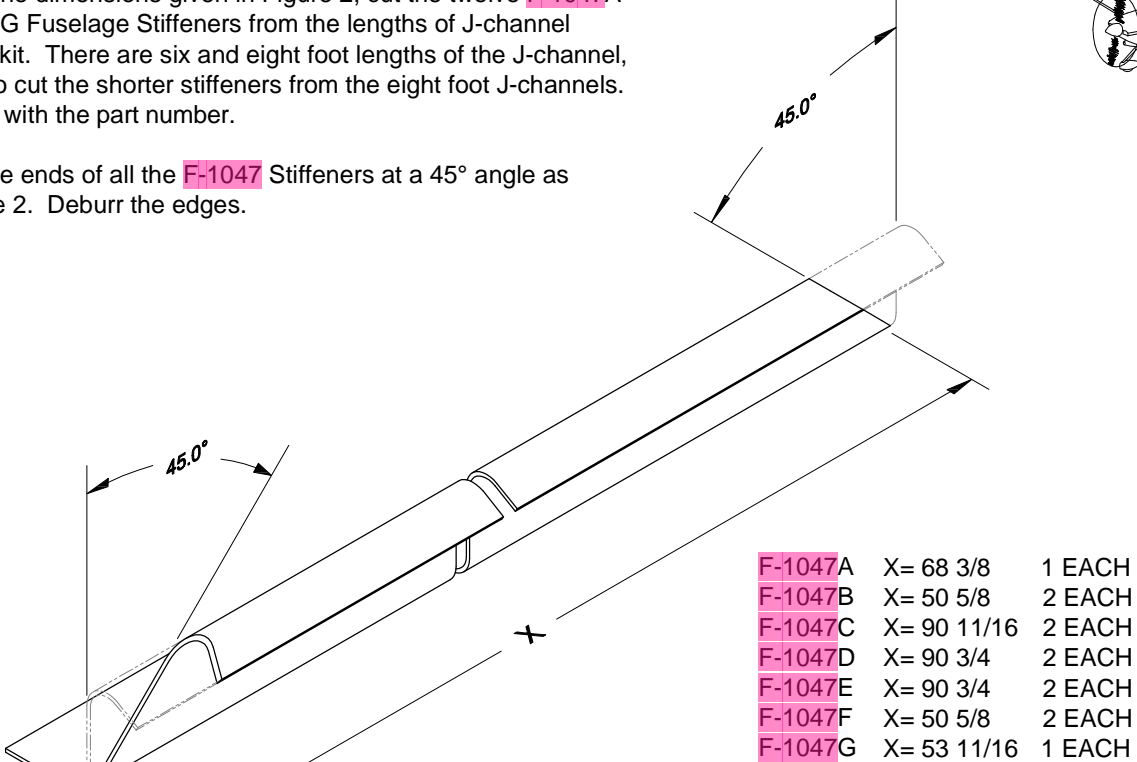

FIGURE 2: F-1047 FUSELAGE STIFFENERS
Step 2: Using the dimensions given in Figure 2, cut the twelve F-1047A through F-1047G Fuselage Stiffeners from the lengths of J-channel provided in the kit. There are six and eight foot lengths of the J-channel, be careful not to cut the shorter stiffeners from the eight foot J-channels. Mark each part with the part number.
Step 3: Trim the ends of all the F-1047 Stiffeners at a 45° angle as shown in Figure 2. Deburr the edges.